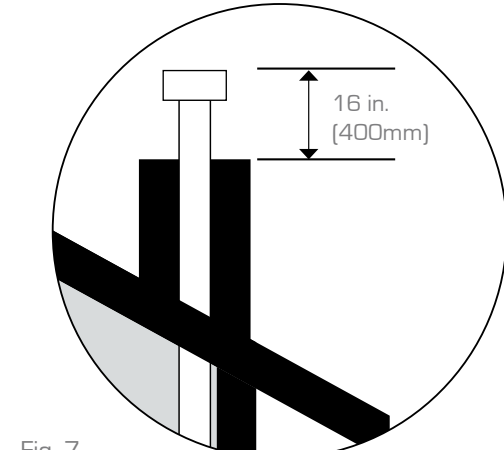

Fig. 7
The pipe must be installed vertically above the roof, and extend at least 24 in. (609mm) above the roof surface (fig. 7).
8. Ensure that the pipe is properly fed through the ceiling/roof. If the outlet air pipe is to be enclosed (e.g. using metal siding), make sure that the end of the pipe extends at least 16 in. [400mm] above the enclosure [fig. 7].